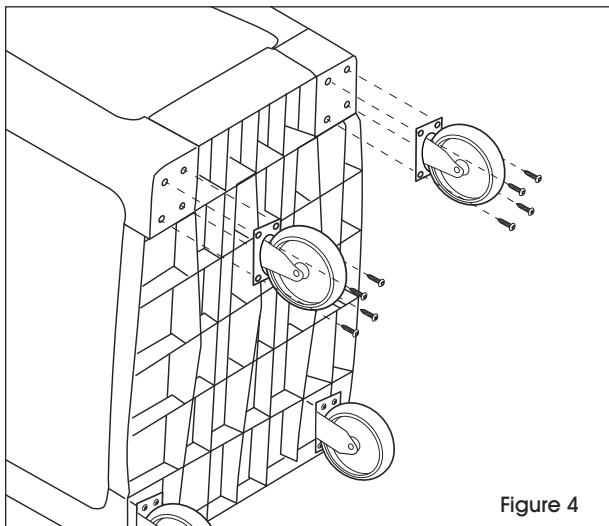

Figure 4
7. Screw swivel casters into the underside of the bottom shelf using four screws. (See Figure 4)